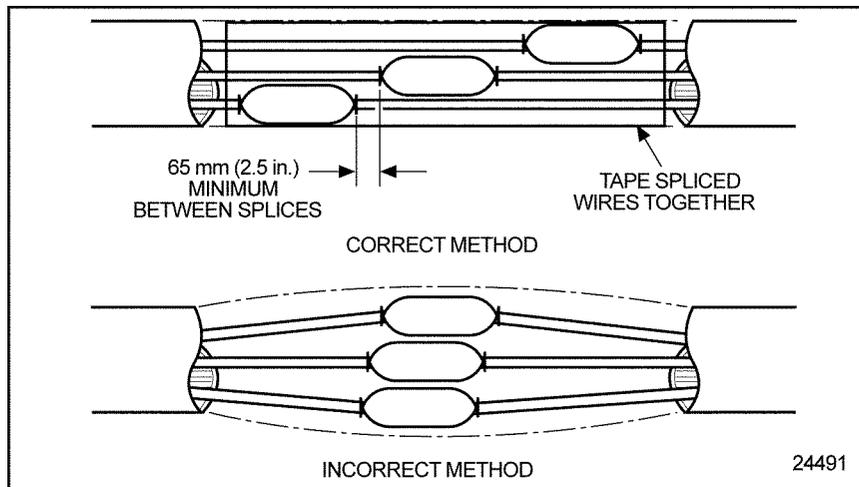

Figure 3-24 The Correct and Incorrect Method of Staggering Multiple Splices
1. Stagger the position of each splice (see Figure 3-24) so there is at least a 2.5 in. (65 mm) separation between splices.